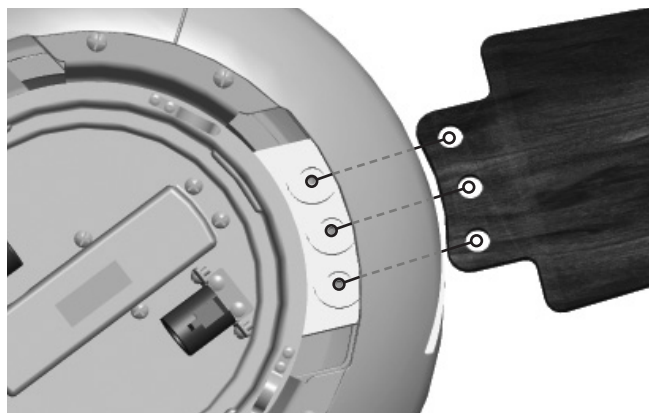

FIGURE 2.
**Step 2.** Align the holes in the blade with the holes on the fan as shown in Figure 2.